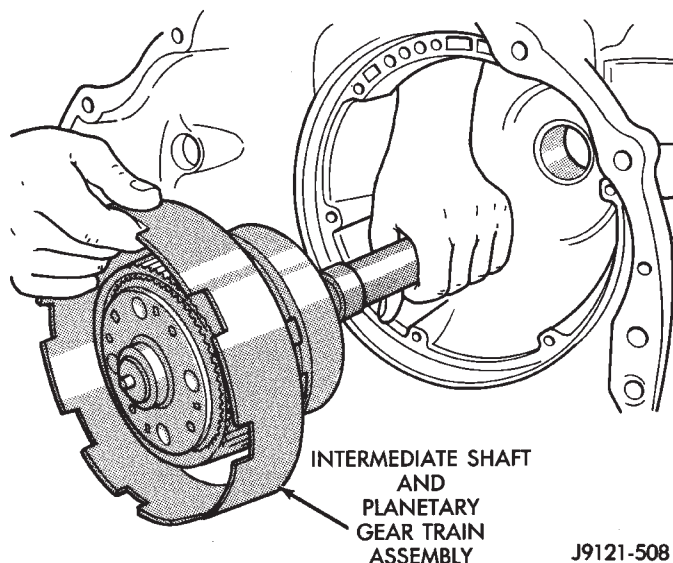
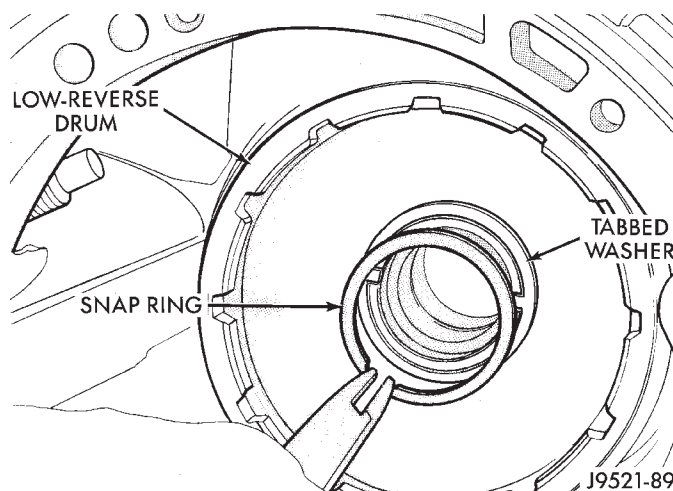

Fig. 112 Intermediate Shaft And Planetary Geartrain
Fig. 113 Low-Reverse Drum Snap Ring
(23) Remove intermediate shaft-planetary geartrain assembly (Fig. 112).
(24) If overdrive unit is not to be serviced, install Alignment Shaft 6227-2 into the overdrive unit to prevent misalignment of the overdrive clutches during service of main transmission components.
(25) Loosen rear band locknut and loosen adjusting screw 3-4 turns.
(26) Remove snap ring that retains low-reverse drum on overdrive piston retainer hub (Fig. 113).